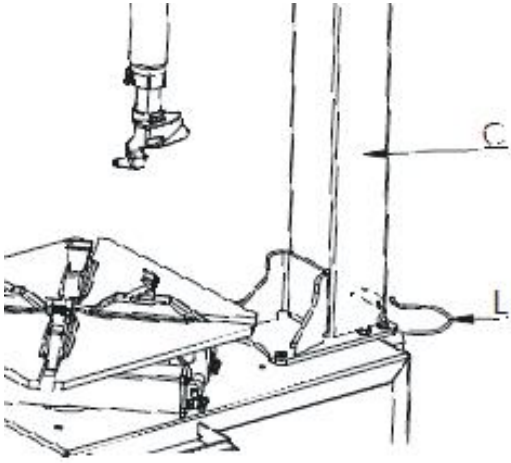

Fig.5-d
- As fig.5-d, put L ring terminals into  $\phi 5$  holes on the right of the column C.